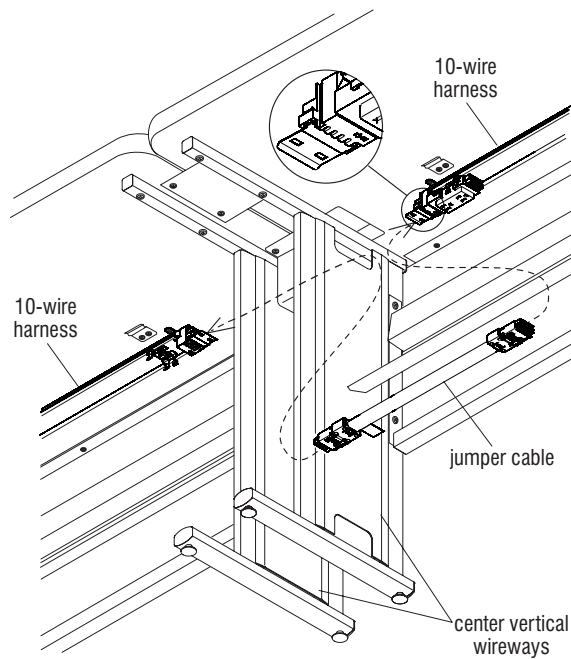

Figure 4
13. To connect power between worksurfaces, the power/data door must be unclipped from the underside of ganged worksurfaces. The 10-wire harness can then be accessed to connect power between worksurfaces. Route the jumper cable through access holes of vertical wireways and table-to-table wireway. Plug each end of jumper cable into the ends of the 10-wire harnesses (Figure 4).